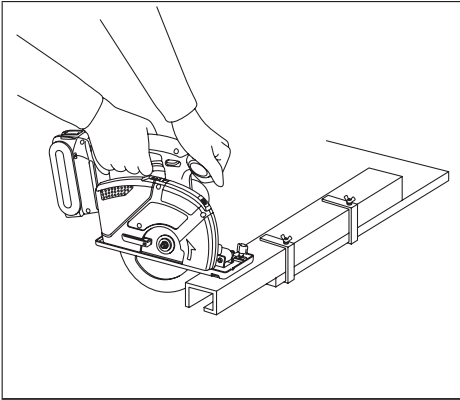
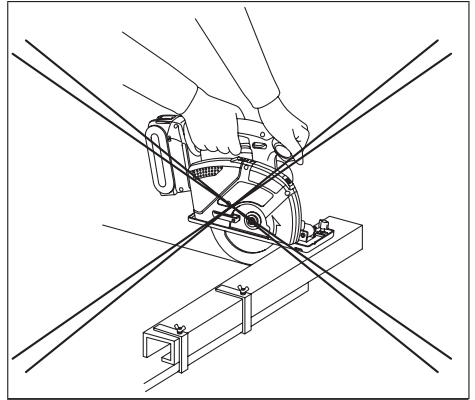

Fig. 17
Fig. 18
1. Place the wider part of the shoe on the part of the work piece which is solidly supported (See Fig. 17), never on the section that will fall off when the cut is made. (See Fig. 18)